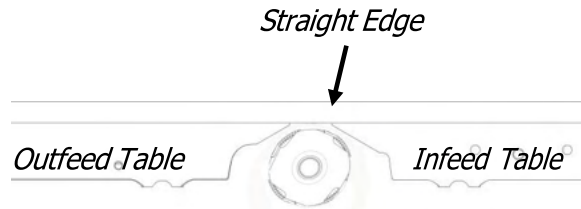

Figure 27: Straight Edge
STEP 2: Place straight edge across infeedand outfeed tables as in **FIG. 27**. If inserts interfere with straight edge, rotate the cutterhead.